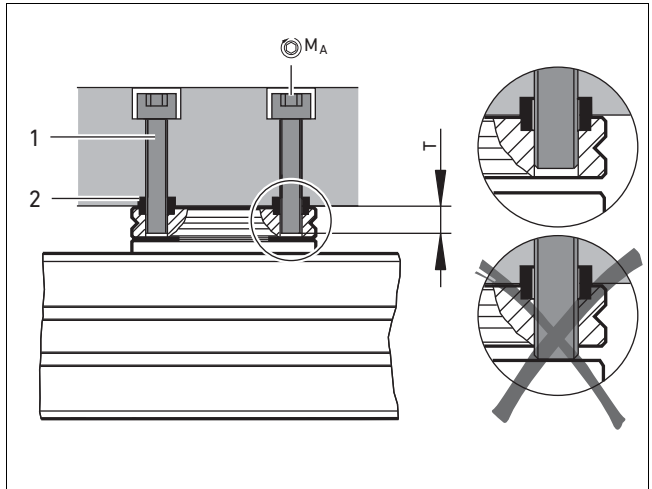

Fig. 8: Fastening the useful load on the rotary flange
- ▶ Fasten the useful load on the rotary flange with at least two screws and centering sleeves (see Fig. 8).